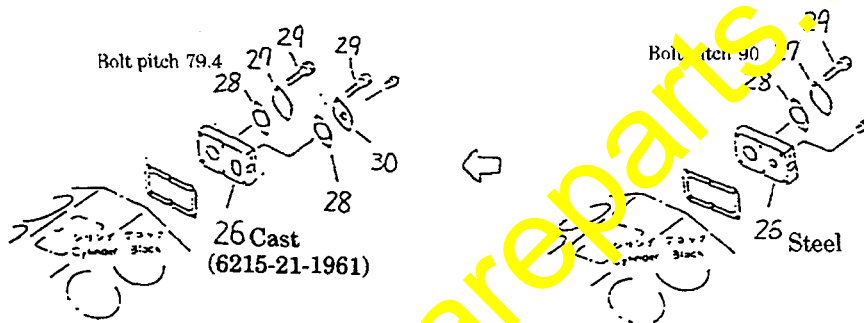

Fig. 35
④ Cast heater connector on D475A-2 (Fig. 35)